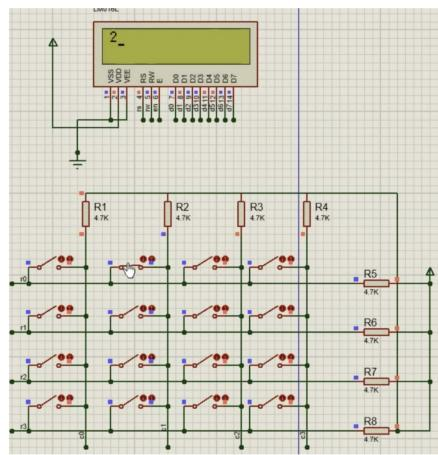

Figure 25: We press '2' in the keypad and observe it is written on LCD.
- (b) click a key on the virtual keypad and see the pressed key displayed on the LCD screen immediately. As you press new keys, it will be displayed immediately. In Figure 25, we press '2' in the keypad and observe it is written on LCD.